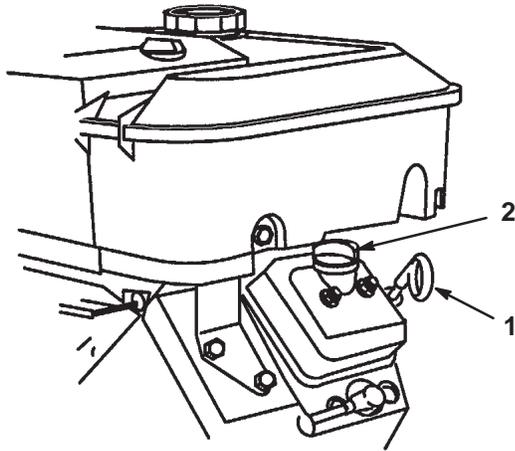

Figure 11
2. Remove the dipstick and wipe it with a clean rag (Fig. 11). Insert the dipstick into the tube and make sure it is seated fully. Remove the dipstick and check the oil level.
3. If the oil level is low, remove the filler cap from the valve cover (Fig. 11) and pour oil into the opening until the oil level is up to the Full mark on the dipstick; refer to Engine Oil, page 27, for the proper oil type and viscosity. Add the oil slowly and check the level often during this process. **Do not overfill.**